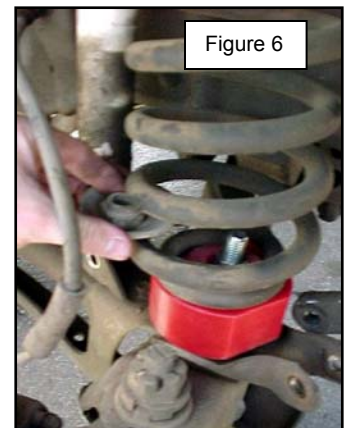

Figure 6
9. Install the upper and the lower coil spring clamp bolt and nut with washer. Make sure that the coil spring is seated correctly into the upper frame. See figure 6 and 7.